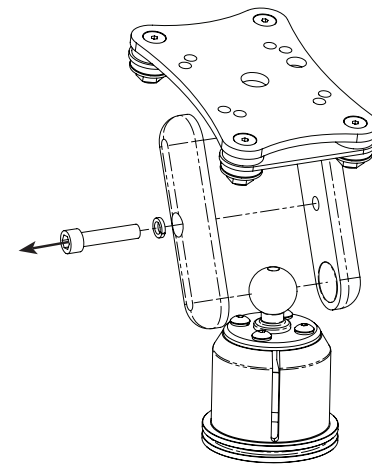

Figure 1
5. Use the 5/32" Hex Key to remove the *Positioning Screw* and disassemble the top portion of the mount as shown in Figure 1.